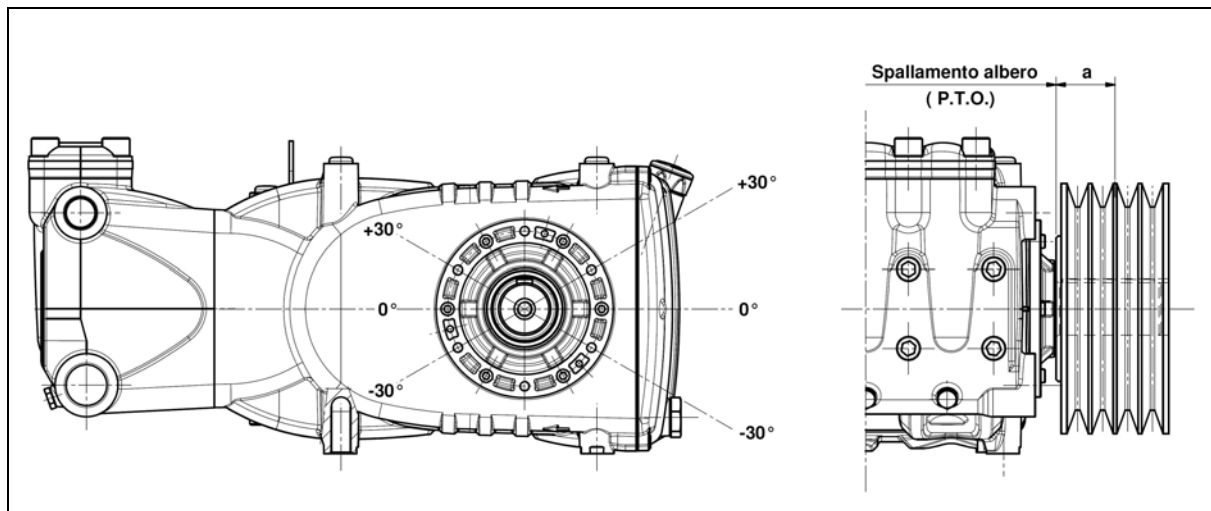

fig. 10
The radial load on the shaft must not be greater than 7500 N (value required for the definition of the Lay-out). The transmission is considered adequate if this load is applied at a maximum distance of **a=40 mm** from the shaft shoulder (P.T.O) as indicated in fig. 10.
- b) Use high efficiency belts – for example **XPB** instead of **SPB**; this will allow to use a lower number of belts to transmit the same power, and consequently a minor distance of the resultant from the shaft shoulder (P.T.O.) “a” in fig. 10